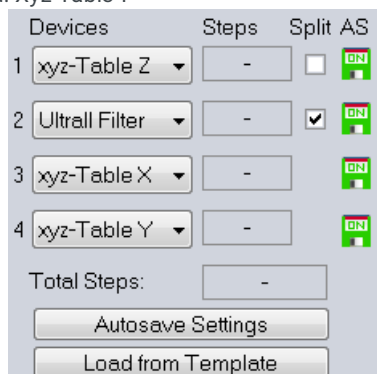

Figure 7. Make sure all devices have the "on" feature displayed and only the "ultrafilter" is checked
- 10 Set measurement parameters in table 2 (Figure 7).